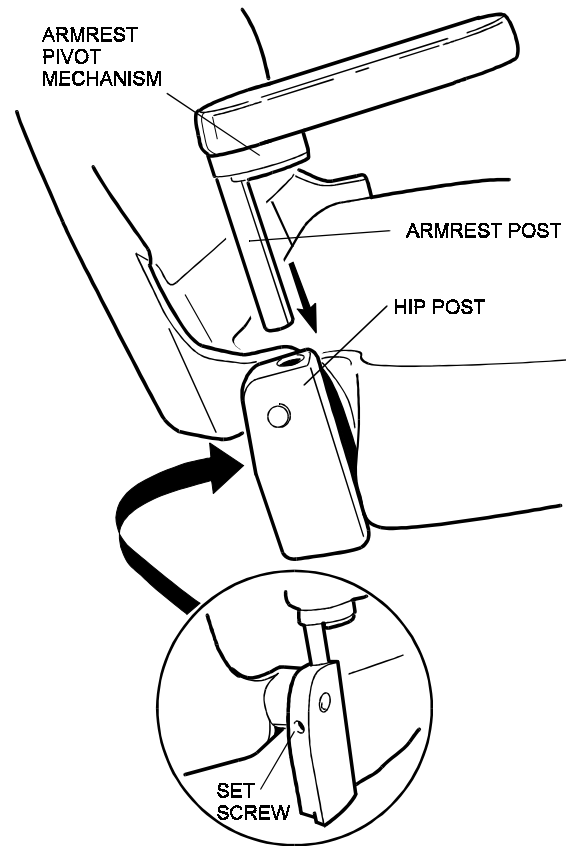

**Figure 13**
2. Insert the armrest post in the hip post, making sure that the right and left hand mounting positions are observed (See Figures 13 & 14).
3. Position the armrest parallel to the side of the chair and tighten the set screw (See Figure 13).